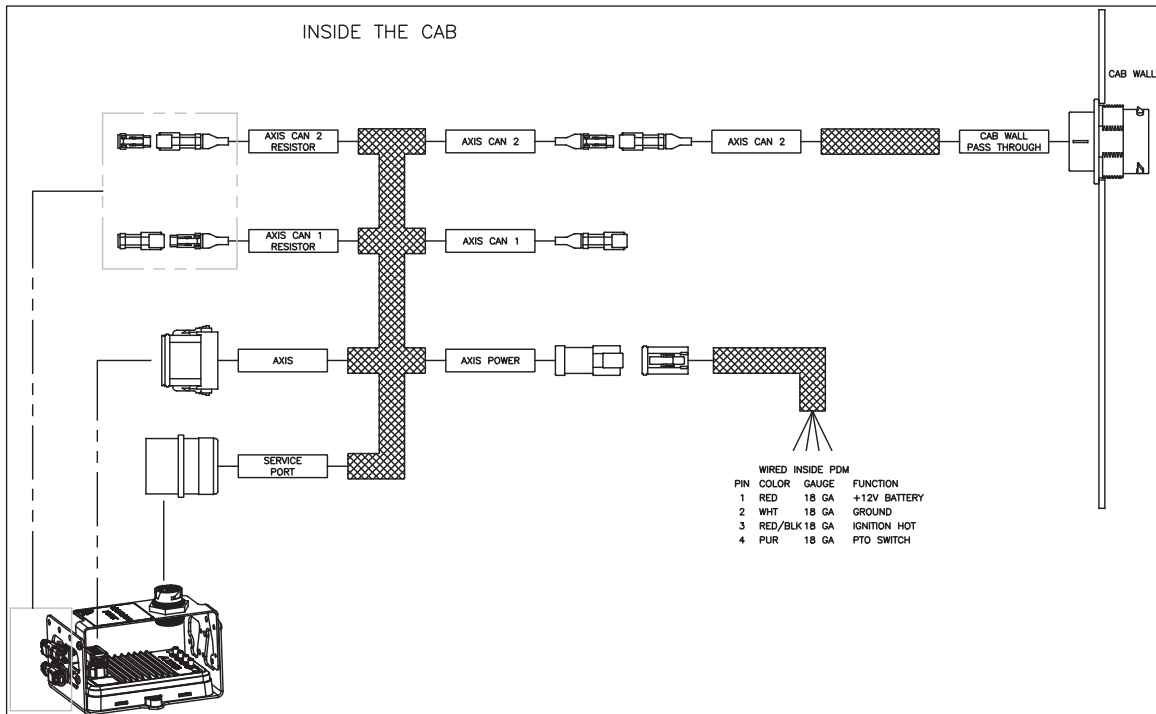

Figure 3 — Non-JEMS Wiring Schematic
- a. If the resistance is correct on both wires, check the connections below (refer to Figures 3 and 5).